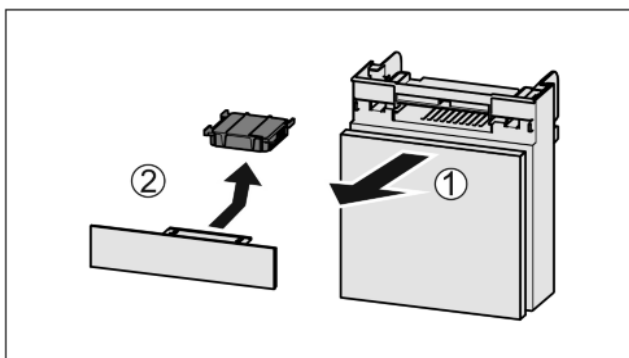

Fig. 33
- ▶ Pull out the compartment Fig. 33 (1).
- ▶ Remove the carbon filter Fig. 33 (2).